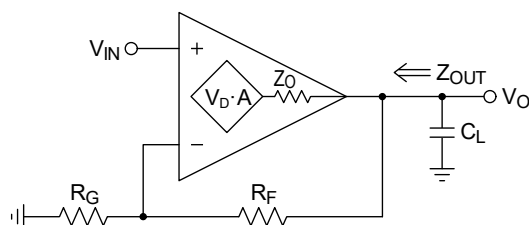

Figure 1. Figure 1. Open-Loop Output Impedance,  $Z_O$
The open-loop output impedance,  $Z_O$ , of an operational amplifier (op-amp) is the inherent impedance of its output stage without external feedback applied.  $Z_O$  is design dependent. It interacts with capacitive loads, which can destabilize an amplifier circuit (Figure 1).
*Note:*  $Z_O$  must not be confused with the closed-loop output impedance of an amplifier circuit,  $Z_{OUT}$ , which is a function of  $Z_O$ , and much lower in value due to applied feedback (Figure 1).